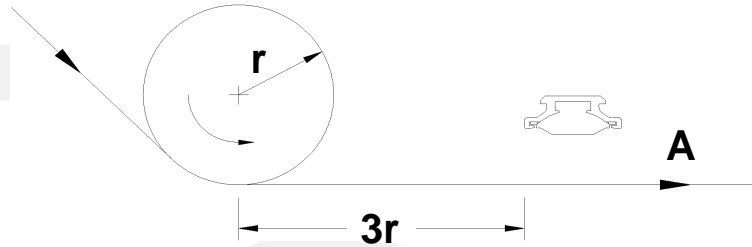

Figure 2
- When trying to achieve the lowest possible level of static charge at a particular position on the web – for example, point A in Figure 2 – then the distance between the ionizer and the roller should be slightly greater than three times the radius of the roller.